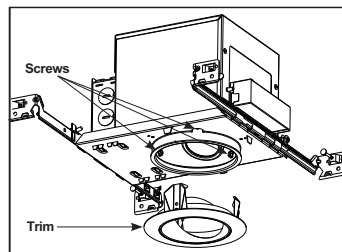

Figure 12
Step 1. Remove trim (Fig. 12).
Step 2. Remove 3 screws that secure inner housing to the plaster frame. Inner housing will slide out of fixture (Fig. 12).
Paso 1. Retire la moldura (Fig. 12).
Paso 2. Retire los 3 tornillos que aseguran la carcasa interior al marco de yeso. La carcasa interior se deslizará fuera del artefacto (Fig. 12).